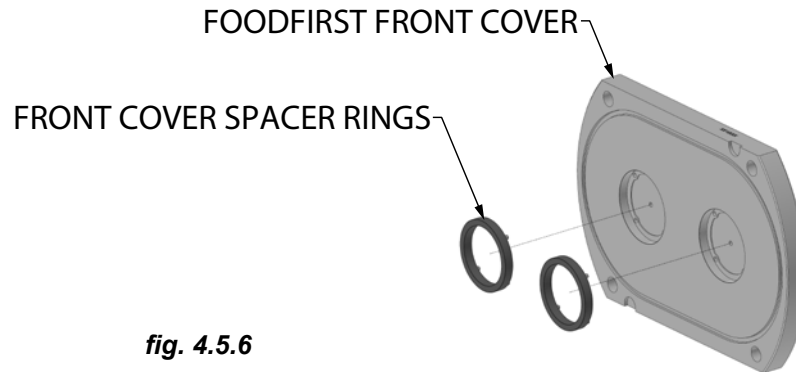

fig. 4.5.6
4.5.2.4.1 FoodFirst Front Cover Spacer Ring Removal- Standard Front Cover (ref. fig. 4.5.6)